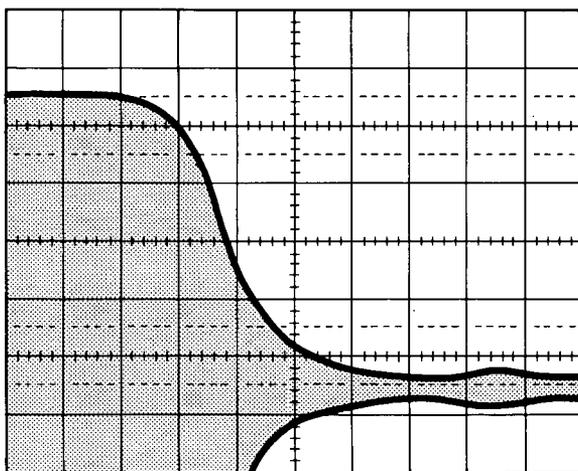

Figure 4-14. Pulse Modulation Fall Time Waveform
7. Adjust the oscilloscope horizontal position control to view the modulation envelope fall time. Position the waveform so that the modulation envelope crosses the 90% graticule at a vertical graticule line similar to Figure 4-14.